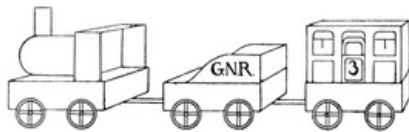

FIG. 101
**A Match-box Train** (Fig. 101). The engine is a match-box turned upside down, to which is gummed a cork covered with red or green paper. The broad end of the cork has been sand-papered to make it more equal to the other end. The funnel is a piece of cardboard blackened and inserted into a slit in the cork. Half a match-box glued to the cork forms the cab. The coal tender is a match-box on wheels; a piece of brown paper can be pasted round one end to form the back and the sides. The simplest way of making a carriage is to fold a piece of paper into three, mark on it the door and the windows and gum it to the inside of the box. For this piece of paper the children can get the measurements from the match-box.